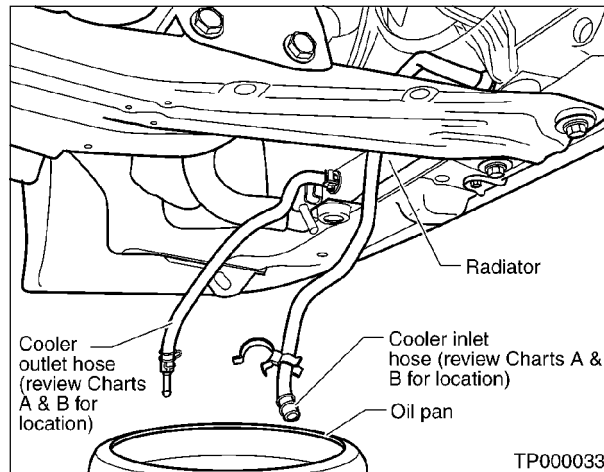

Figure 3
3. Disconnect the oil cooler Inlet and Outlet rubber hoses from the steel cooler tubes (see Figure 3).